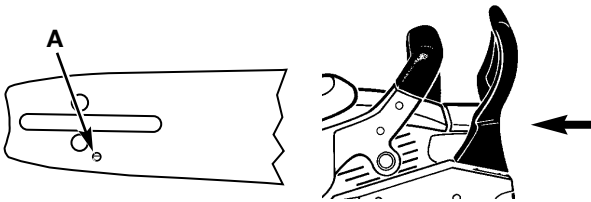

Fig. 21
CAUTION: To ensure the bar and chain receive oil, **ONLY** USE THE ORIGINAL STYLE BAR with the oil passage hole (A) as illustrated in Fig. 21.
1. Make sure the Chain Brake® lever is pulled back into the DISENGAGED position (Fig. 21). Remove bar retaining nuts with supplied multi-purpose tool.